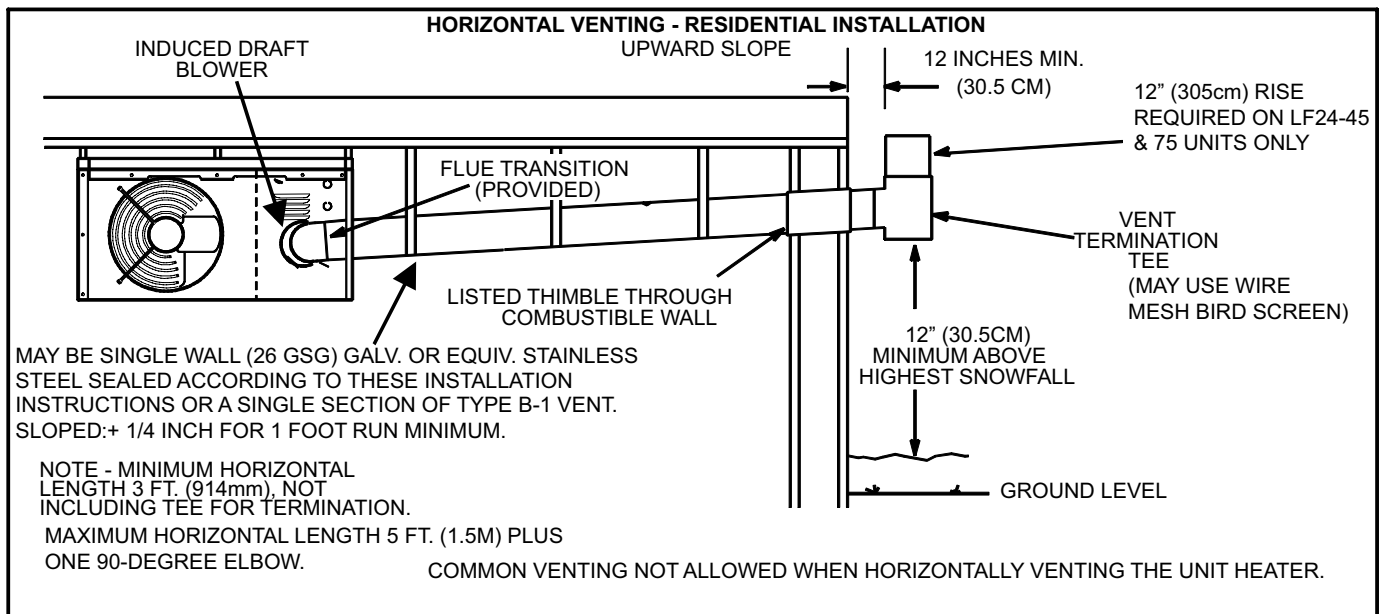

FIGURE 6
- 5 - Unit models 45 and 75 must terminate with a 12" (305mm) vertical rise at the tee termination. Refer to figure 6.